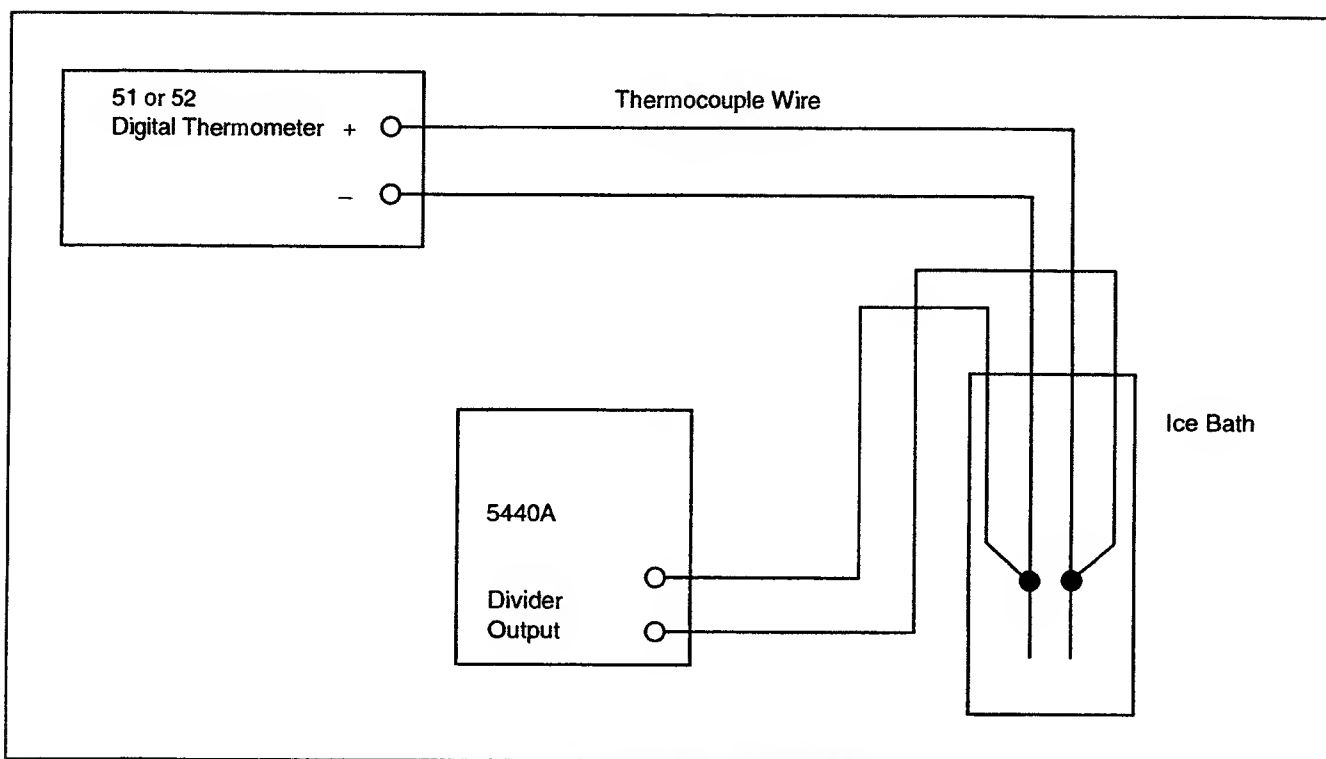

Figure 3-4. Equipment Connections
4. Replace the Dewar Flask cap or cork, and insert thermocouple wires as shown in Figure 3-4.
1. Connect the equipment as shown in Figure 3-4.